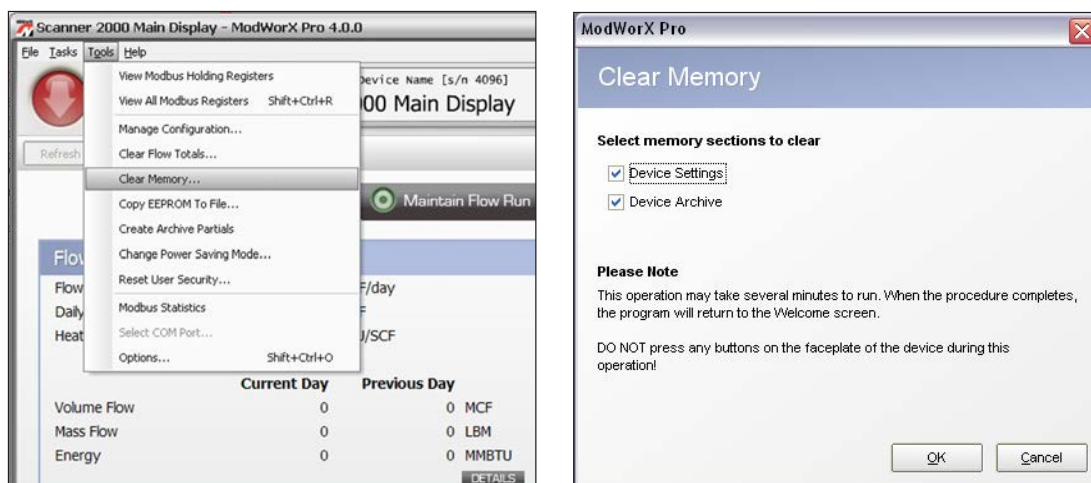

Figure A.8
1. Click on **Tools**>**Clear Memory** (Figure A.8).